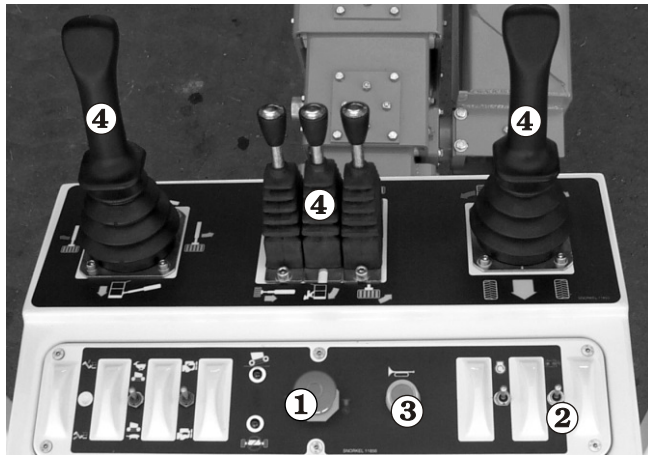

Figure 6.23—Platform Controls SP20 (Hydraulic Controls)
Test the operation of each control^④ in both directions from the upper controls (refer to Figures 6.23 and 6.24).